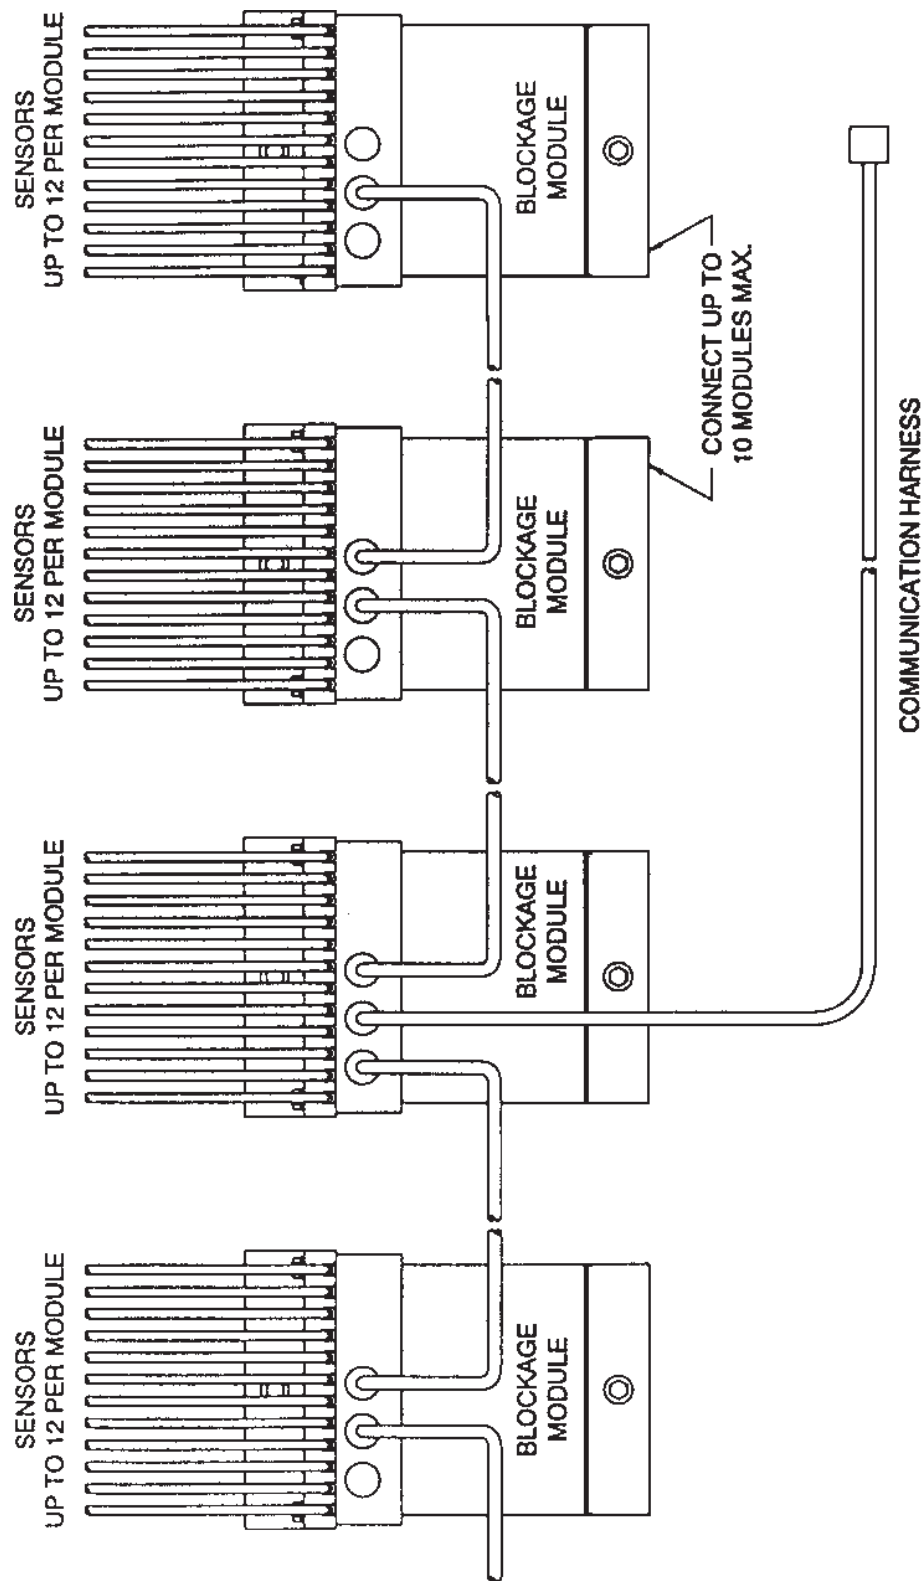

FIGURE 5: BLOCKAGE MODULE SYSTEM CONFIGURATION
- Connect module 1 to module 2 and module 2 to module 3 etc. See figure 5.